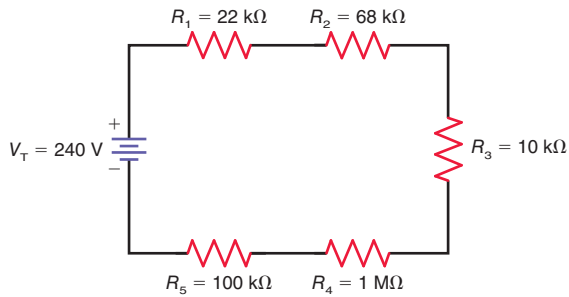

Figure 5-22
5.6 In Fig. 5-22, solve for R_T and I .
- 5.9 In Fig. 5-22, find the voltage drops across R_1 , R_2 , R_3 , R_4 , and R_5 .